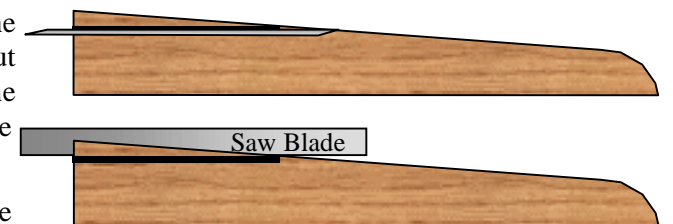

FIGURE 5
7. Place the Hack Saw blade on the line on the right side of the car. Holding the blade parallel with the line on the top of the car, cut until the saw blade is even with the line on the top of the car (see Figure 5).